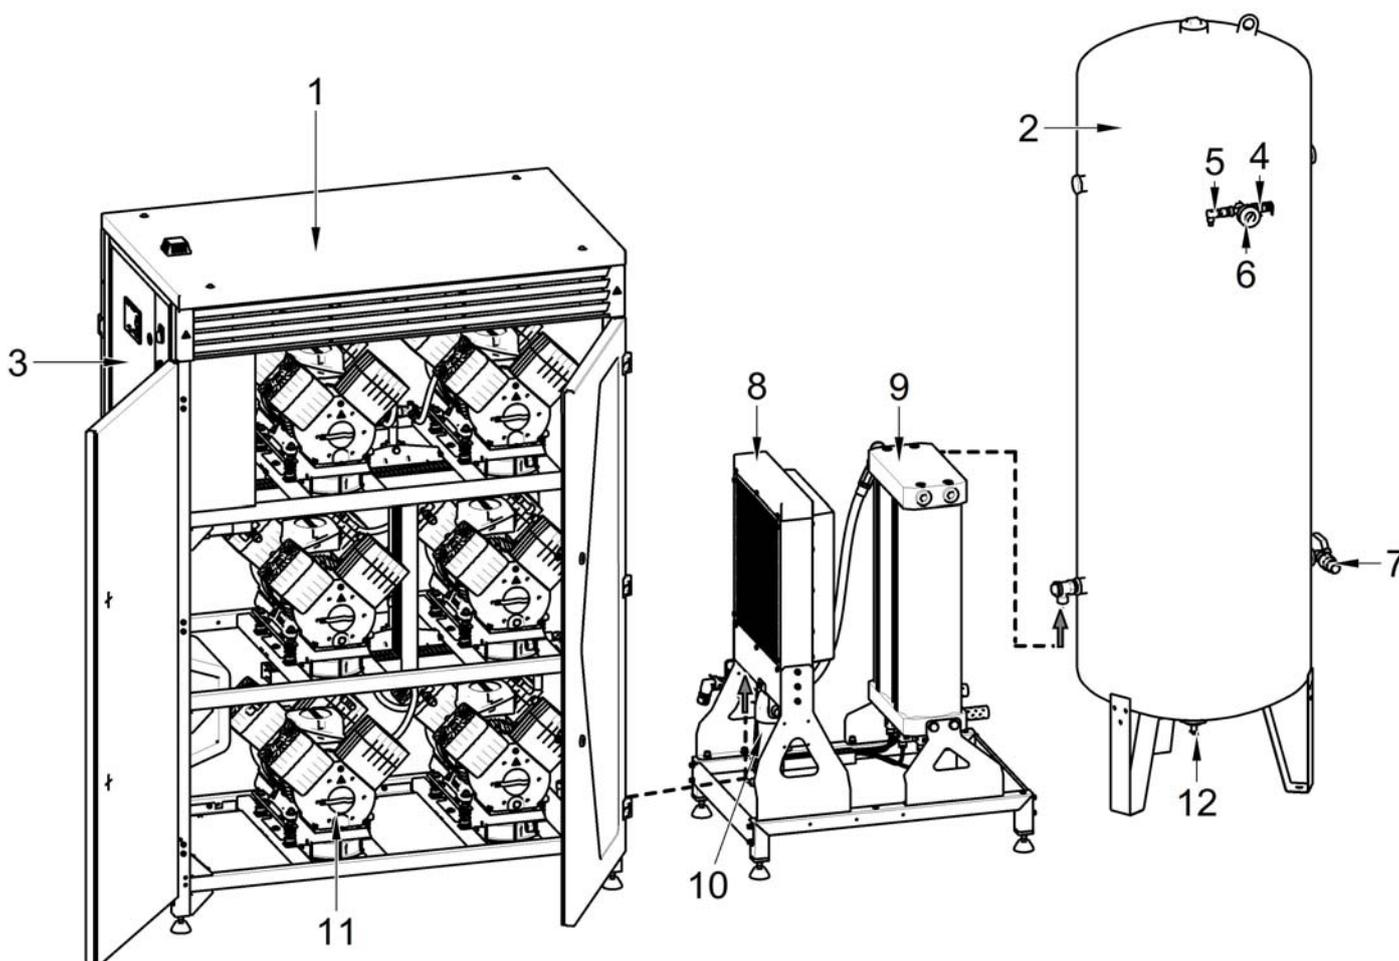

Fig.1 DK50 6x4VRTS/M
Aggregate assembly (unenclosed) (schematic in chapter 19 and 21) is comprised of 6 aggregates respectively, which are connected to a common compressed air line and the electrical switchboard (3) (Fig. 1)
The enclosure itself is composed of a set of parts including the rigid side panels and the front and rear double-wing doors that open to a full 180°. The upper section is covered by a panel with high performance radial cooling fans and fins along the sides. All of the enclosure parts are covered with sound insulation to prevent undesirable noise from being emitted into the nearby area. The perforated portion of the side of the enclosure supplies air to the central filter. (Fig.1)